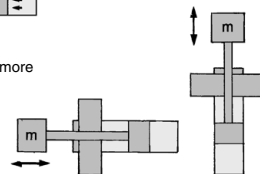

Fig. 2  $\eta = 0.5$  or less
- 2) Using the cylinder for dynamic operation: load ratio  $\eta = 0.5$  (Fig. 2)